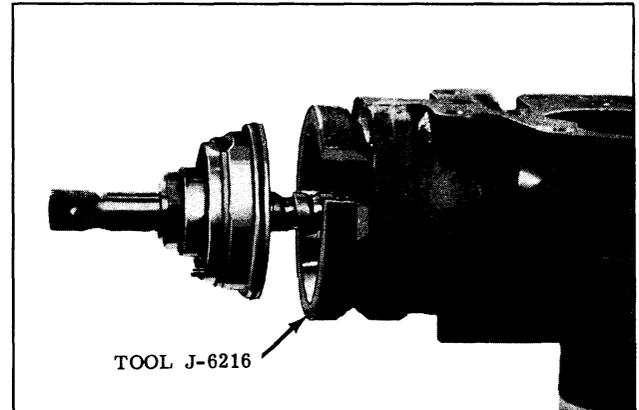

Fig. 5-61 Installing Rack-Piston
2. Turn the housing so that the valve body side is facing up, then place ring compressor Tool J-6216 in recess of housing. (See Fig. 5-61)